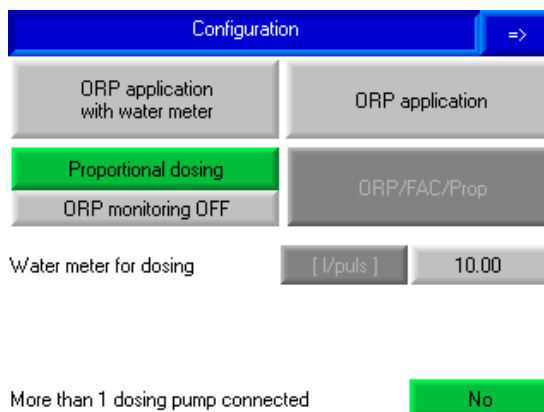

Figure 26 - Proportional dosing
- Neuthox[®] dosing for proportional dosing is used in drinking water for human and livestock consumption. Dosing ppm is the amount of Neuthox[®] that will be dosed, for every pulse from the water meter. The Neuthox[®] will be dosed evenly between 2 pulses from the water meter (Figure 26).